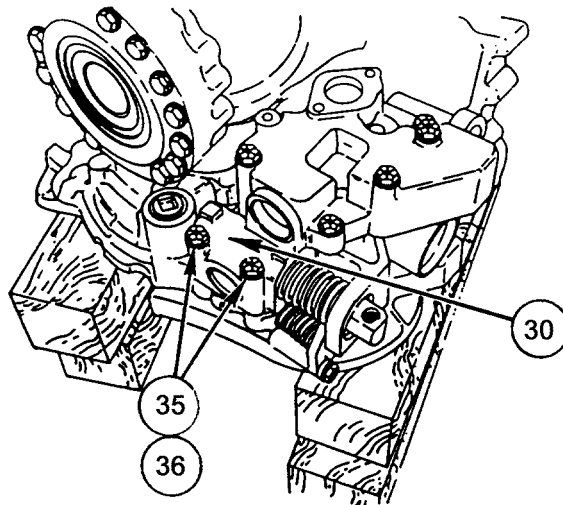

Figure 14. Bevel Gear Assembly.
7. Position Bevel Gear Assembly, shaft downward, on wooden blocks (WP 0024, Item 3) as shown in Figure 14.
8. Install Input and Scavenge Pump Assembly (30). Install two bolts (35) and two washers (36) that retain Input and Scavenge Pump Assembly (30).
9. Torque two bolts (35) to 17-20 lb-ft (23-27 N·m).